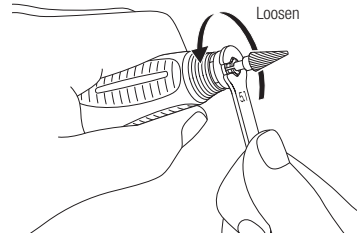

Fig. 7
- 2) Turn the chuck counterclockwise with the spanner wrench included with the product (Fig. 7).